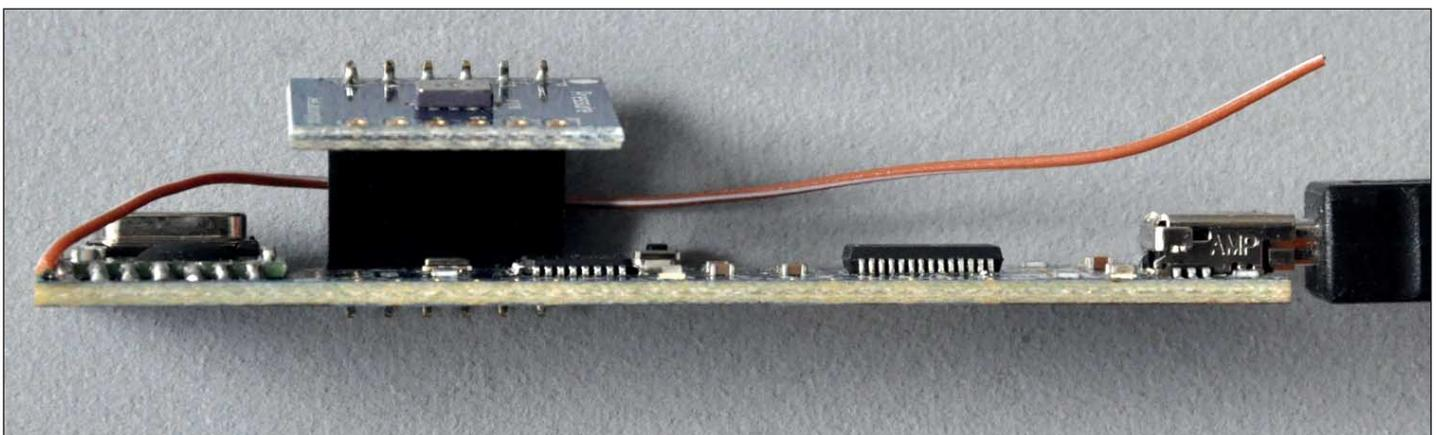

Figure 2 - An elevation view, showing how the Pressure Plus is mounted above the main JeeNode USB board.
**Figure 2** is an elevation view of the board, and illustrates how the *Pressure Plug* is mounted above the main *JeeNode* USB board. The black item is a multi-way socket allowing the *Pressure Plug* to be removed and different hardware substituted.